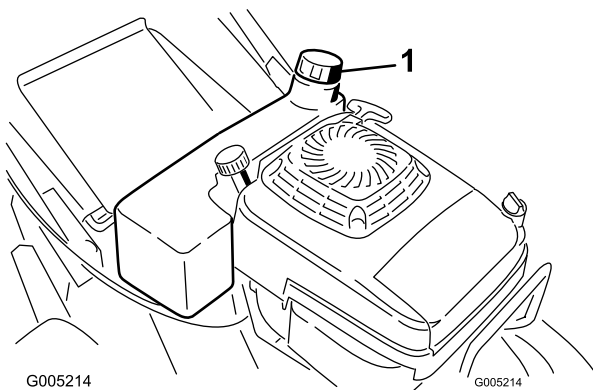

Figure 9
1. Clean around the fuel tank cap (Figure 9).